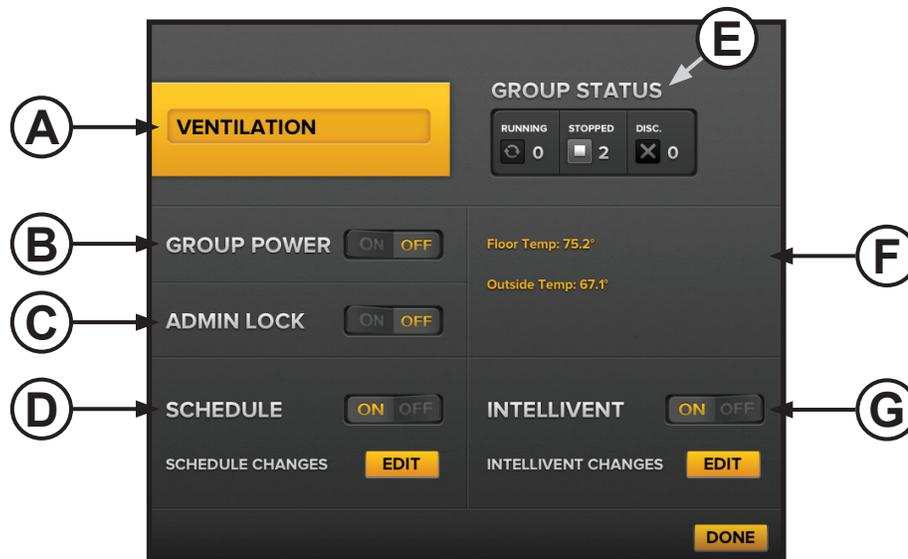

Figure 17—Louver/vent group details page
2. Locate the louver or vent group you want to work with, and then touch the **Detail Page** button for the group. The group details page appears (Figure 17).
3. Adjust the settings as necessary, and then touch **Done**. See Figure 17 below and the following page for details.